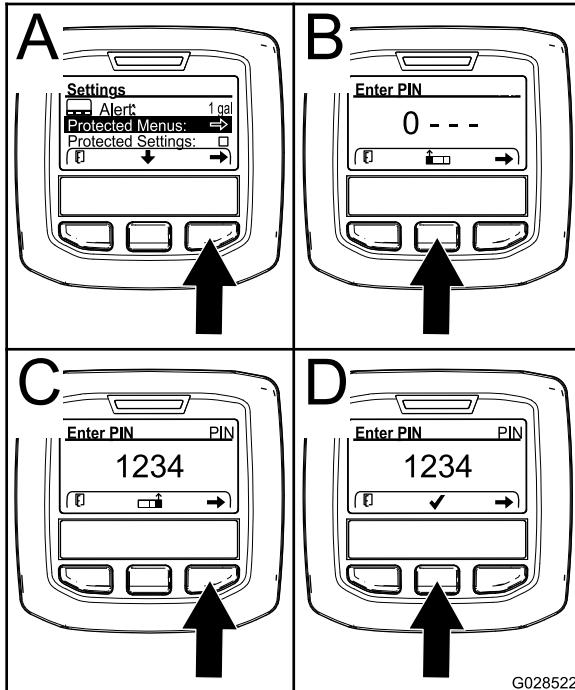

Figure 71
3. Press the right select button to select Protected Menus (A of Figure 71).
- Press the center selection button (B of Figure 71) to increase the numerical value (0 to 9)
- Press the right selection button (C of Figure 71) to move the cursor to the next numerical position to the right.
**Note:** The checkmark icon will appear above the center selection button (D of Figure 71).
6. Press the center selection button (D of Figure 71) to enter the password.